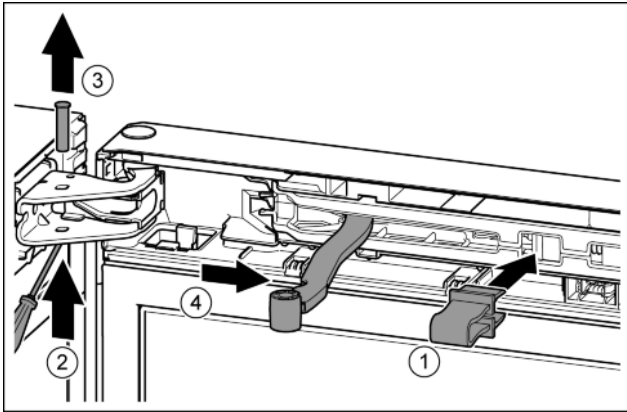

Fig. 12
- ▶ Engage the safety device in the opening. Fig. 12 (1)
- ▶ Undo the bolt with a T15 screwdriver. Fig. 12 (2)
- ▶ Remove the bolt in an upward direction. Fig. 12 (3)
- ▶ Turn the hinge in the direction of the door. Fig. 12 (4)